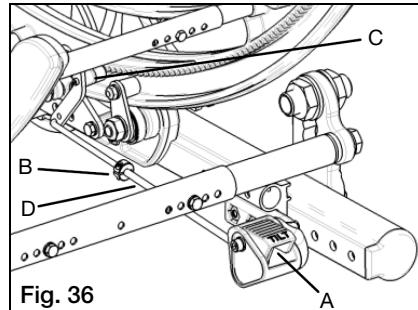

Fig. 36
- i. Depress foot tilt pedal (Fig. 36:A).
- i. Using a 3mm Allen wrench, loosen locking collar (Fig. 36:B) by loosening screw in collar.
- ii. With cog (Fig. 36:C) fully engaged in rotary frame teeth and with tilt pedal released, reposition locking collar against end of tube (Fig. 36:D) and tighten clamp screw.